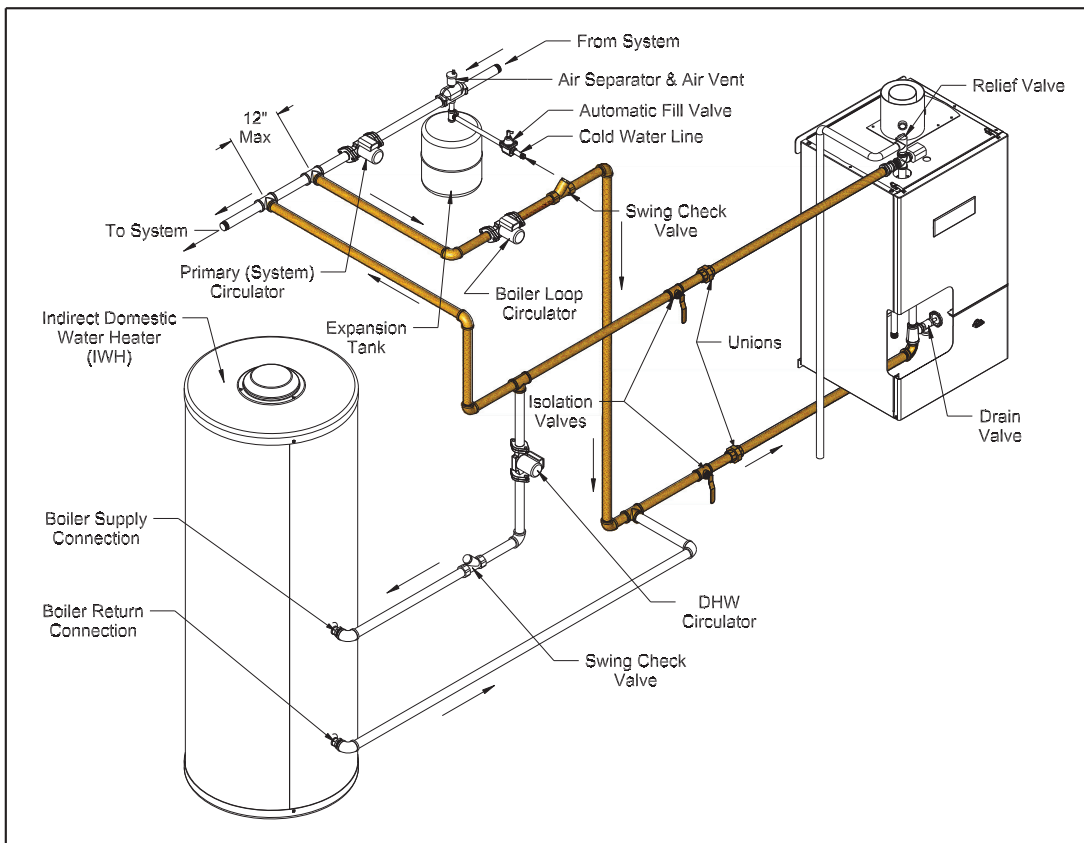

Figure 9.4a: Piping Method #1 - Secondary Loop Piping (Shaded)
- b) Count all fittings in the planned secondary loop (the secondary loop consists of the shaded piping in Figure 9.4a). In doing so, do not count the secondary connection tees, unions, or the fittings supplied with the boiler (these have already been accounted for).